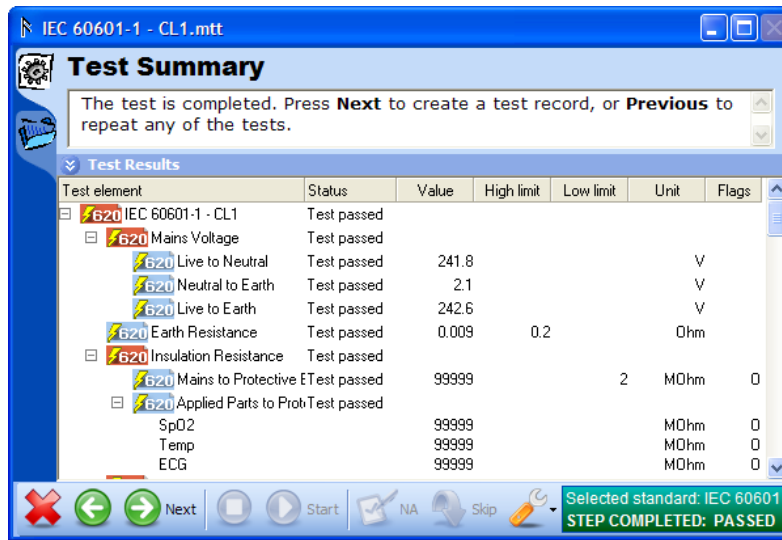

Figure 3-12. Test Summary Window
- Click the Next button (➡) to open the Test Summary window as shown in Figure 3-12.